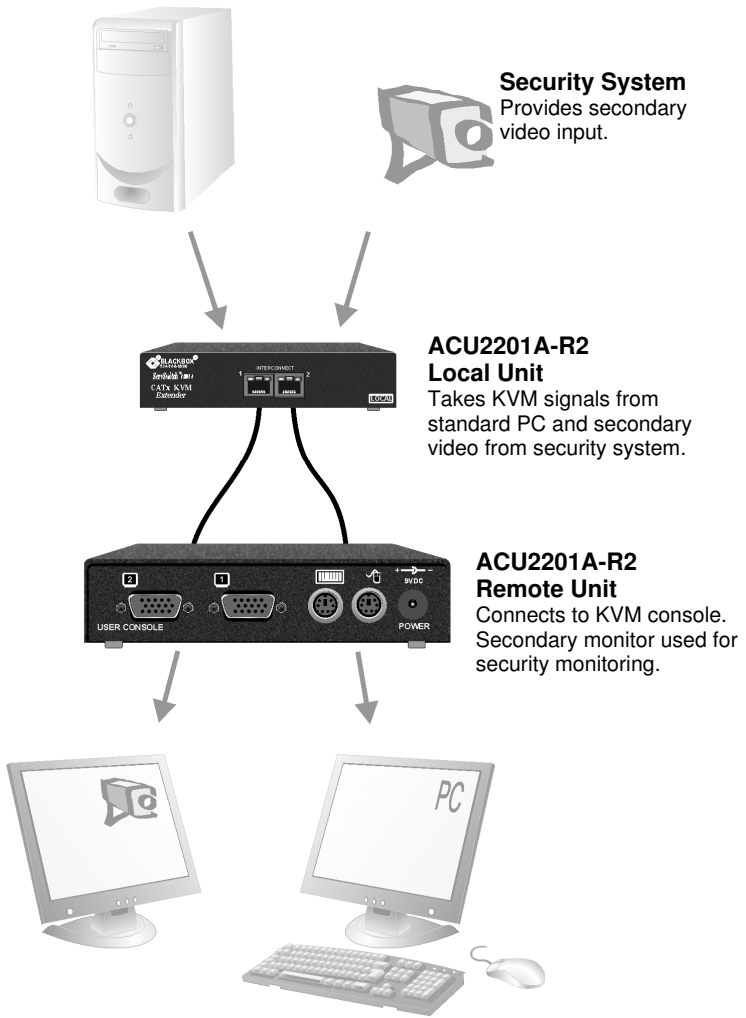

Figure 10
- Extender system with second screen for security monitoring (Figure 10).